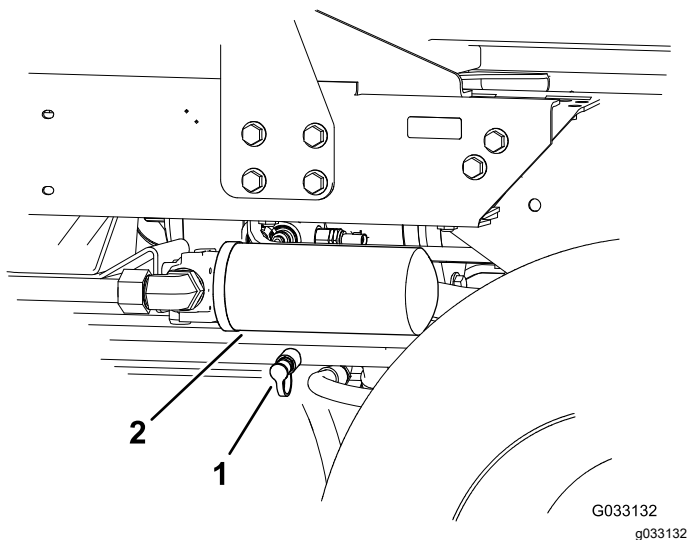

Figure 76
2. Connect a hydraulic hose between the diagnostic fitting installed in the rear traction manifold and the reverse traction pressure test port (Figure 76).